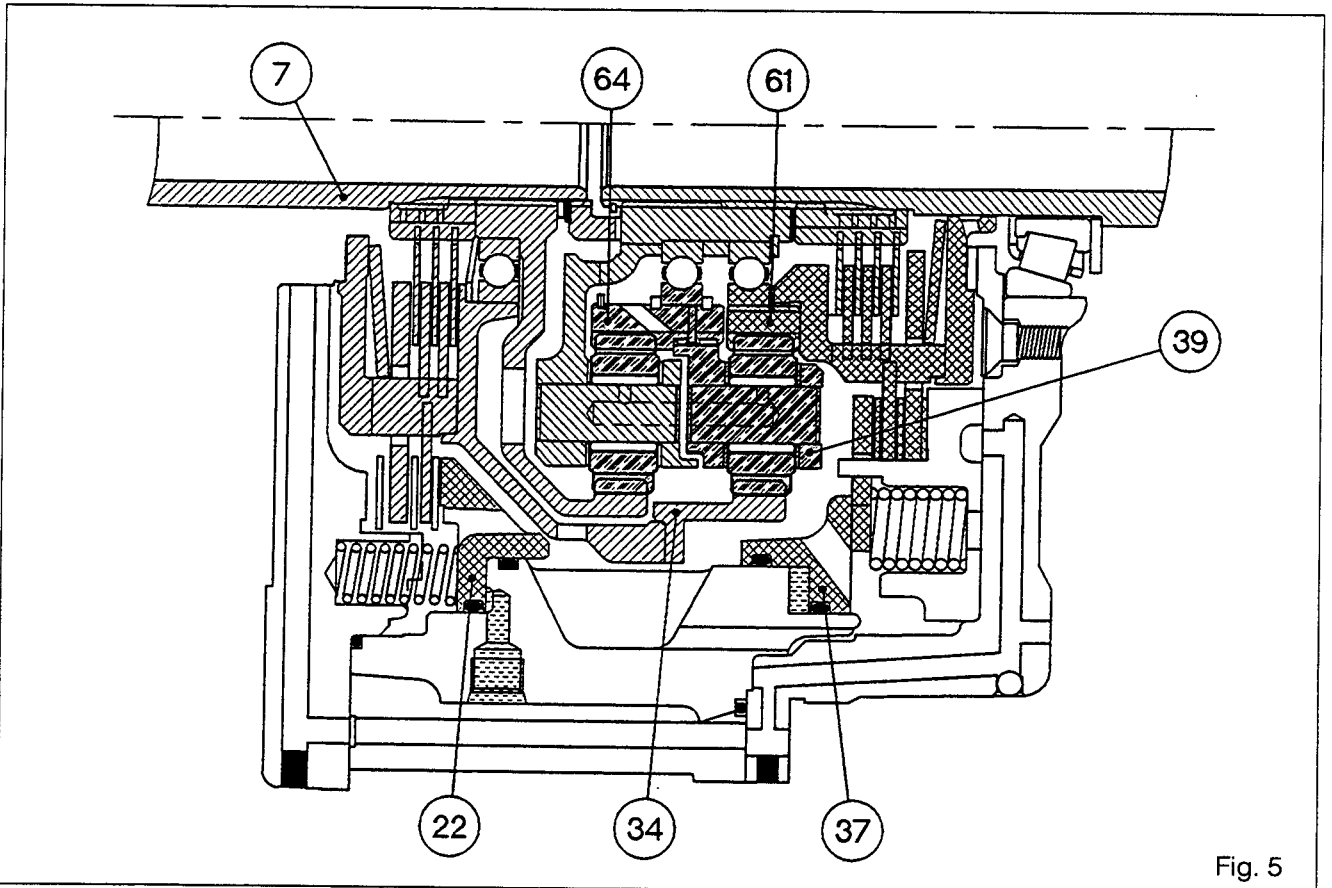

Fig. 5
**Gearbox - Dynashift****Ratio C: Reduction 1/1.1704 (Fig. 5)**